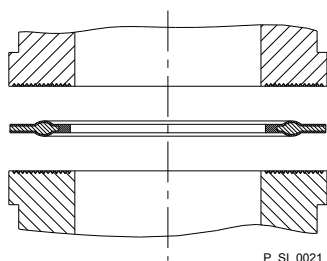

Fig. 16: Moulded composite seals with corrugated insert
- The pump is supplied with PTFE moulded composite seals with a flare, which are used for the pump connections. They seal the connections between grooved pump valves and the grooved inserts from ProMinent - see Fig. 16.